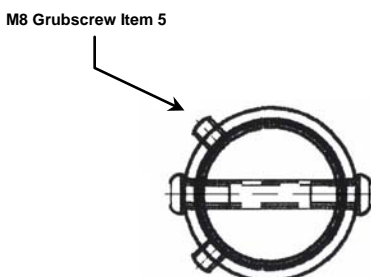

FIGURE 5
7. Refer to fig 5. Fit 2 x m8 grubscrews, (item 5) using allen key (item 7). Tighten the screws evenly until the support tube is a solid fit to the socket. Do not over tighten these screws.